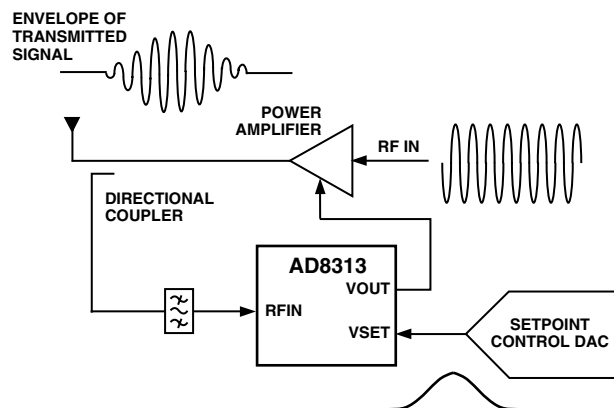

Figure 13. Setpoint Controller Operation
This mode of operation is useful in applications where the output power of an RF power amplifier (PA) is to be controlled by an analog AGC loop (Figure 13). In this mode, a setpoint voltage, proportional in dB to the desired output power, is applied to the VSET pin. A sample of the output power from the PA, via a directional coupler or other means, is fed to the input of the AD8313.